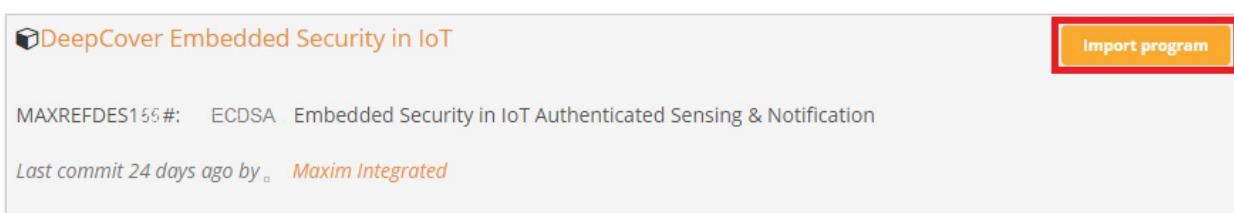

Figure 1. *Import program* button.
| Figure 1. Import program button..... | 4 |
2. Import the latest revision of the program into the online compiler by clicking on the **Import program** button in the mbed repository page (**Figure 1**). A free mbed account is required to access the online compiler.